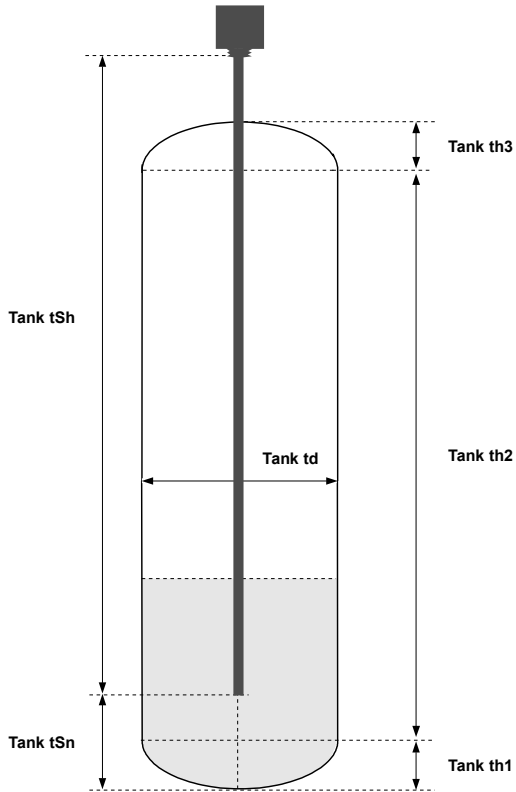
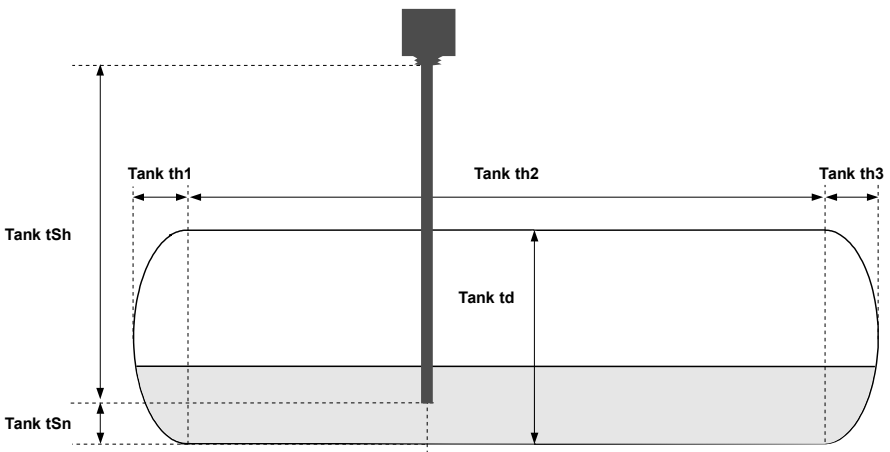

Figure 7.3. Tank parameters in vertical position
Figure 7.4. Tank parameters in horizontal position
- “**Tank th1**” - the height of the **I** part of a tank in the shape of an elliptic paraboloid, fixed decimal point: 2, See **Figure 7.3** and **Figure 7.4**,
- “**Tank th2**” - the height of the **II** part of a tank in the shape of a cylinder, fixed decimal point: 2, See **Figure 7.3** and **Figure 7.4**,
- “**Tank th3**” - the height of the **III** part of a tank in the shape of an elliptic paraboloid, fixed decimal point: 2, See **Figure 7.3** and **Figure 7.4**,
- “**Tank td**” - the diameter of the cylindrical shaped part of a tank, fixed decimal point: 2, See **Figure 7.3** and **Figure 7.4**,
- “**Tank tSn**” - the distance from the probe to the bottom of a tank, fixed decimal point: 2, it is assumed that the unit in “**Tank tSn**” is 100 times greater than the unit in “**Tank tSh**”. See **Figure 7.3** and **Figure 7.4**,
- “**Tank tSh**” - a measurement range, fixed decimal point: 2, See **Figure 7.3** and **Figure 7.4**,